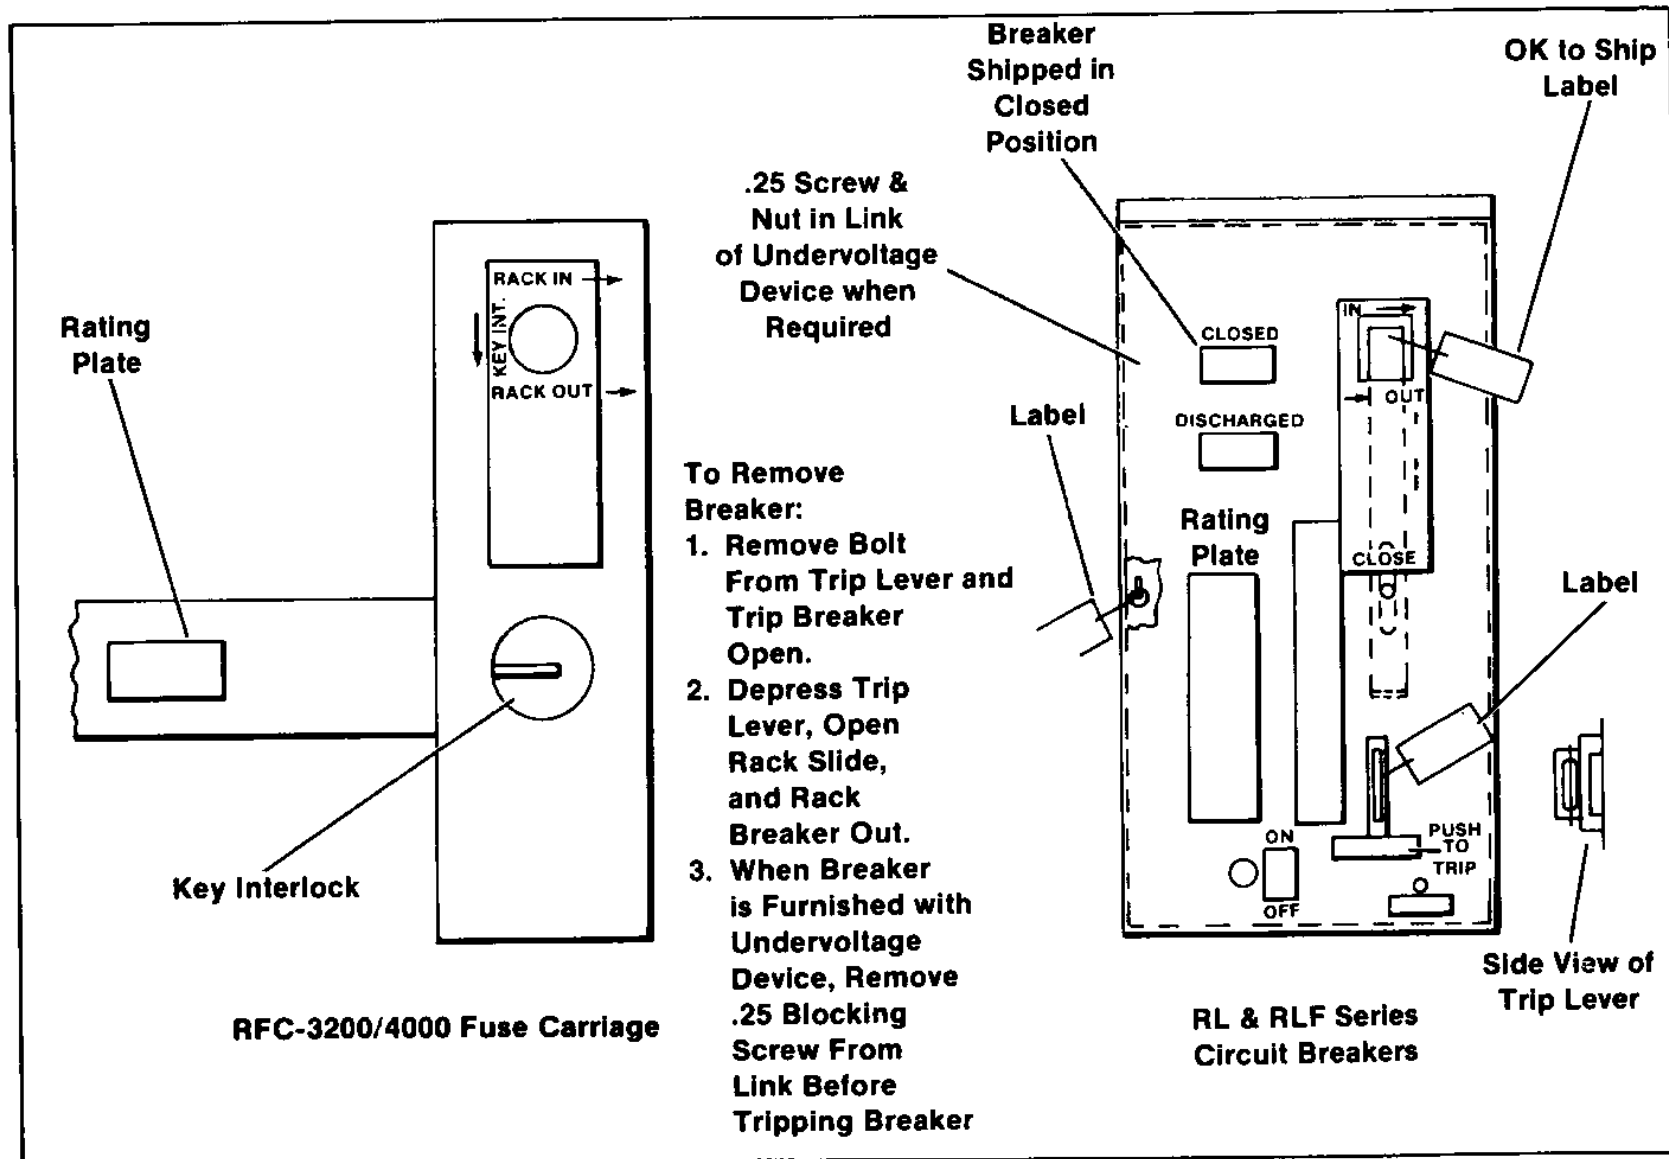

Figure 26. Remove All Tags and Blocking Before Opening Circuit Breaker
Circuit breakers are shipped in the closed position and are blocked to prevent accidental tripping during shipment. Remove all blocking and tags before opening circuit breaker. See Figure 26. Refer to circuit breaker instruction manual for detailed operating information, and lubrication of disconnect contacts.
1. Circuit breakers are shipped in the closed position and are blocked to prevent accidental tripping during shipment. Remove all blocking and tags before opening circuit breaker. (See Figure 26.) If breakers are shipped separately, the procedures for installation are outlined below. If breakers are shipped in their respec-